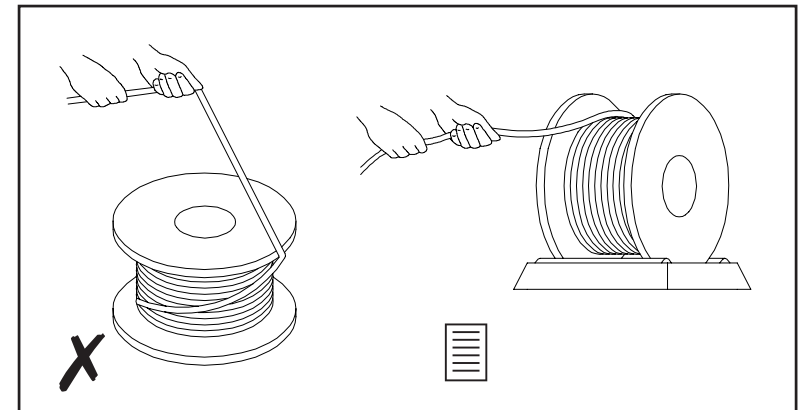

Figure 1
1. Removal of the sensor from a reel must always be carried out by placing the reel on a proprietary dereeler. Failure to do this may allow kinks to form in the cable that will cause internal damage. Refer to Figure 1. Ensure that the sensor is not subjected to jerking or tugging while being paid off the reel.
2. Walk towards the end of the zone while paying the sensor off the reel and allowing it to lie on the floor. Refer to Figure 1 on page 7.